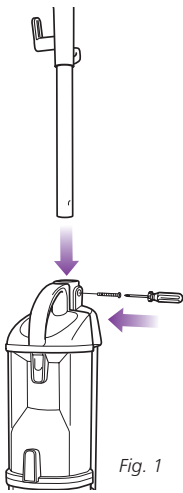

Fig. 1
- 1 Insert the handle into the body. Use a screwdriver (not included) to secure the handle assembly in place with the screw provided. (Fig. 1)